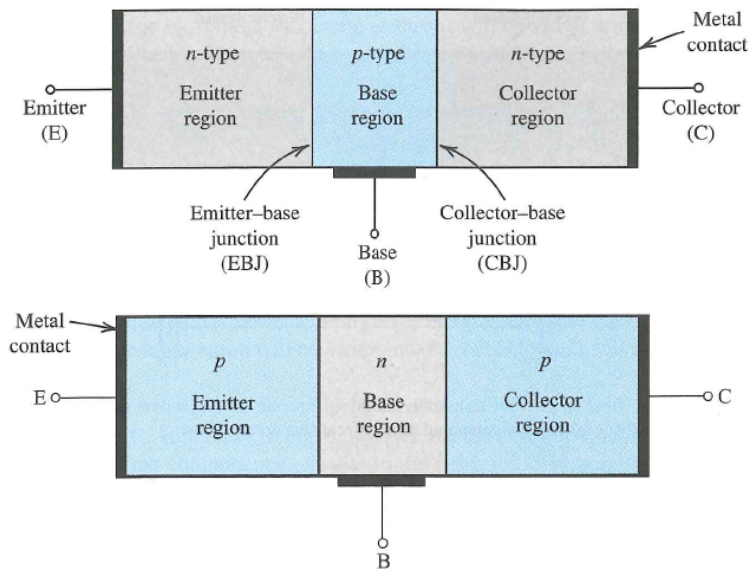

Figure 4: Simplified structures of the *npn* and *pnp* transistors (Courtesy of Sedra and Smith).
The transistor can be a *npn* type where an *n* region is sandwiched between two *p* regions as shown in Figure 4. Both types of transistors comprise three terminals: the emitter (E), the base (B), and the collector (C). Hence, there are two junctions in these transistors, the emitter-base junction (EBJ), and the collector base junction (CBJ).